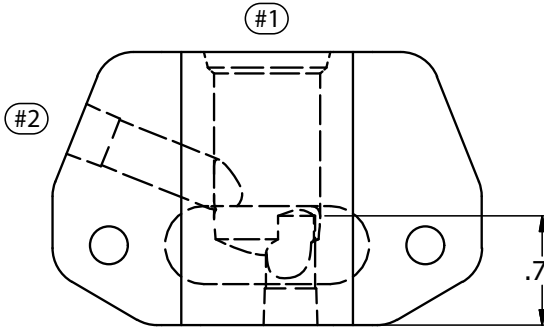

Figure 2 - 1/8" Female NPT Port Depths
5. Install optional fittings and sensors or accessories as desired. If installing sensors, Figure 2 shows maximum sensor lengths for each port.